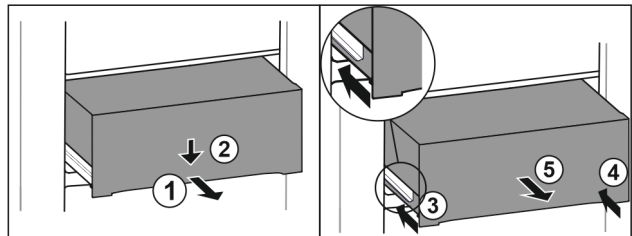

Fig. 211
- ▶ Pull out drawer half-way. Fig. 211 (1)
- ▶ Push the drawer down at the front. Fig. 211 (2)
- ▶ Push the left rail in by about 2 cm. Fig. 211 (3)
- ▶ Push the right rail in by about 2 cm. Fig. 211 (4)
- ▶ Remove drawer to the front. Fig. 211 (5)